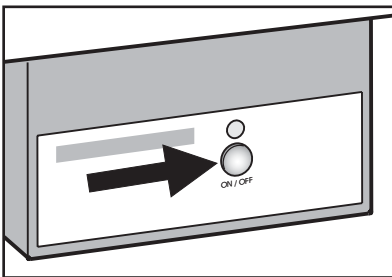

Figure 10
To Start the IceMaker - Figure 10
- Press the "ON/OFF" button so the control lamp comes on (**Figure 10**).